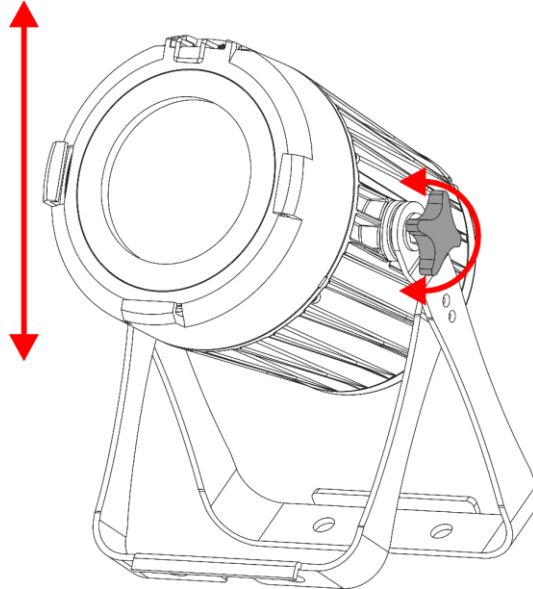

Fig. 09
- 01) Turn the **adjustment screws (06)** counterclockwise to release them.
- 02) Tilt the device at the desired angle (see Fig. 09).
- 03) Turn the **adjustment screws (06)** clockwise to tighten them. Make sure that the device cannot move freely after the **adjustment screws (06)** are tightened.